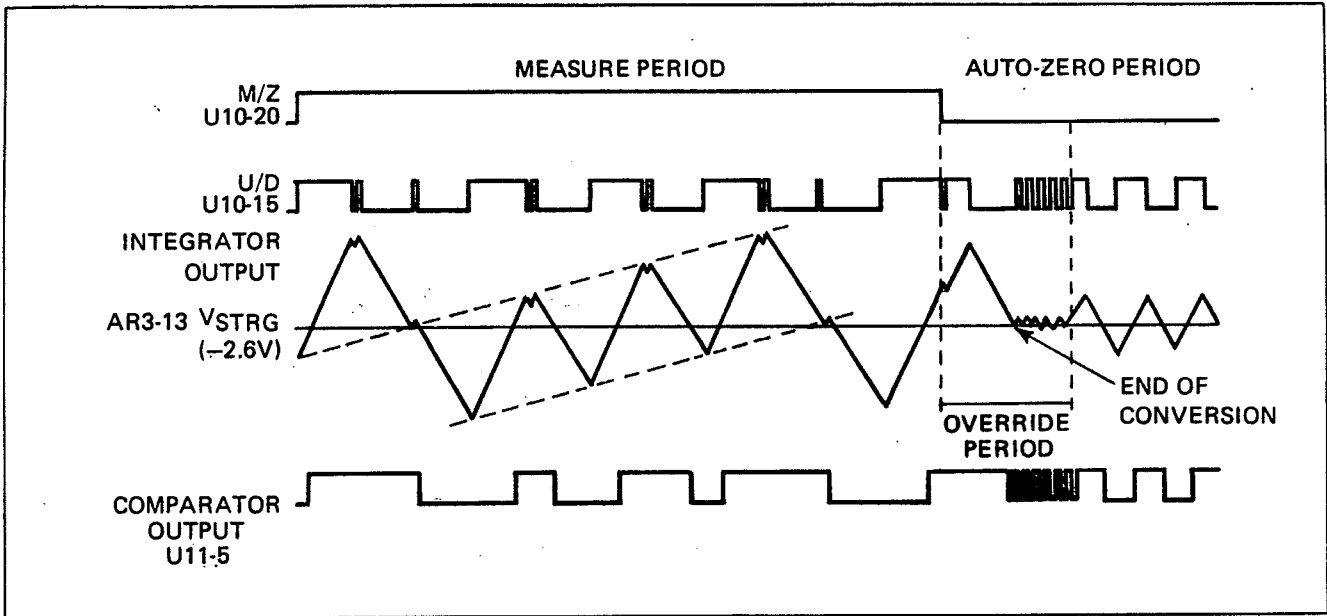
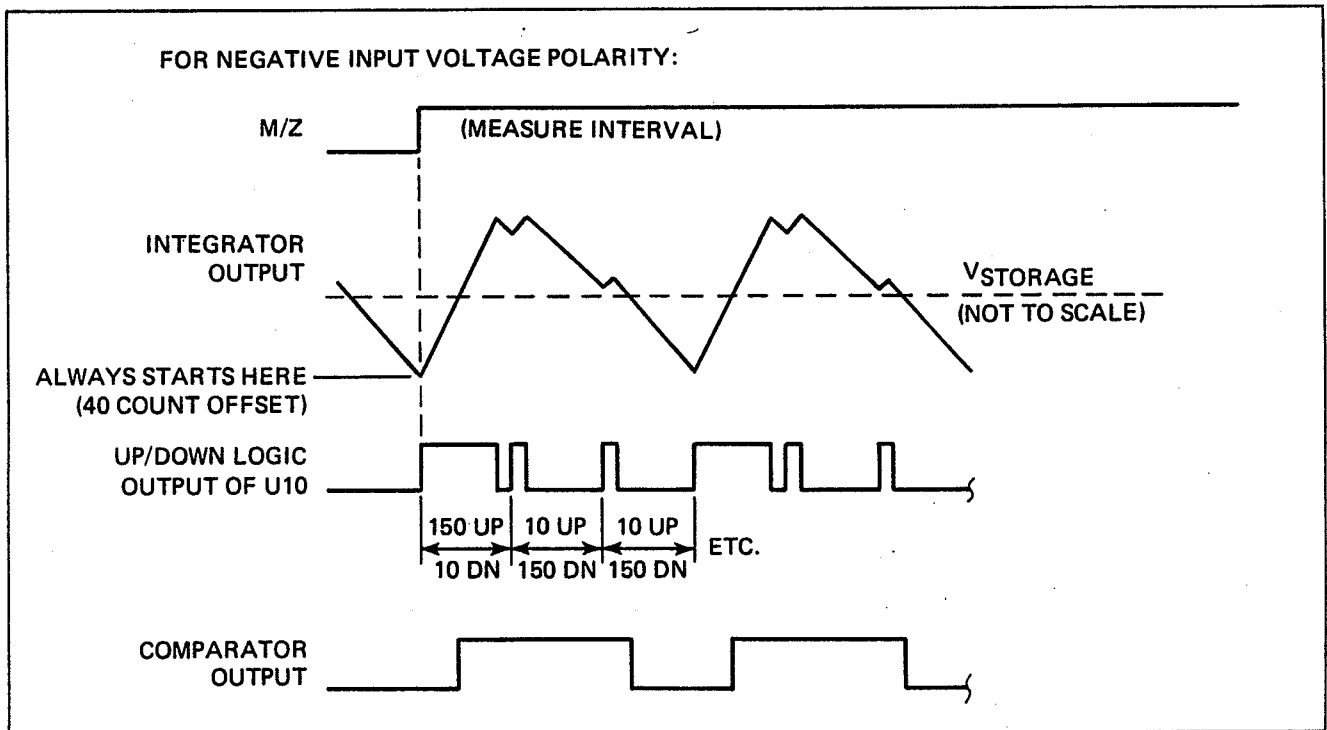

Figure 4.10 - Typical A/D Converter Waveforms
Figure 4.11 - Waveforms at Beginning of Measure Interval for Negative Input
waveform, shown in Figure 4.10, is applied to the analog processor. When the logic level on the START TRIGGER line is held low, the M/Z waveform is generated continuously and the DMM is taking measurements continuously at a rate of 4 readings/sec (60 Hz instrument, 5-1/2 Digit mode) or 40 readings/sec (60 Hz instrument, 4-1/2 Digit mode). When operating the DMM in the Hold/Command (triggered reading) mode, a logic high on the START TRIGGER line holds the system in the Auto-zero mode. A negative going pulse on this line initiates one measurement cycle.
4.4.4.1 At the start of the Measure Interval; (a) the M/Z control goes high, switching the Isolator output to the Input Buffer AR5 through M/Z switch U26, (b) Auto-Zero switch Q9 is switched OFF, disconnecting the Integrator output from the Auto-Zero Filter capacitors, (c) U/D control is high, switching the Reference Buffer input to Analog Common, and (d) the Integrator output is slightly more negative than  $V_{strg}$  (see Figure 4.11). At this time, the only inputs to the Integrator are  $V_{strg}$  and the input signal from the Isolator (buffered by AR5). With only these two inputs, the Integrator output will always move in a positive going direction, independent of the polarity of the signal from the Isolator. As the Integrator output moves away from  $V_{strg}$ , the comparator senses the output of the Integrator and compares it to  $V_{strg}$  on the other Comparator input (pin 12 of U10). The comparator output transmits the sense of deviation of the Integrator output from  $V_{strg}$  to the Control Logic circuits in U10. The Control Logic circuit generates the UP/DN control signal as described in paragraph 4.4.2.2 and shown in Figure 4.10 and 4.11. The effect of the two duty cycles (10 up, 150 down or 150 up, 10 down) is to source or sink a net 140 clock pulses of charge to integrator capacitor C16, thus driving the Integrator output toward  $V_{strg}$  and accumulate a net 140 counts in the up/down counters. The charge is supplied by the current through R9 from the buffered Reference voltage. Charge is added to C16 when the Reference Voltage is applied to R20 and subtracted when the Reference voltage at the output of the Reference Buffer is zero. The net amount of charge required to keep the Integrator output at  $V_{strg}$  during the Measure Interval is measured by the Up/Down Counter in the Digital I.C. The BCD count at the end of conversion equals the number of charge parcels necessary to cancel the input voltage and the resulting digital count is proportional to the analog voltage.